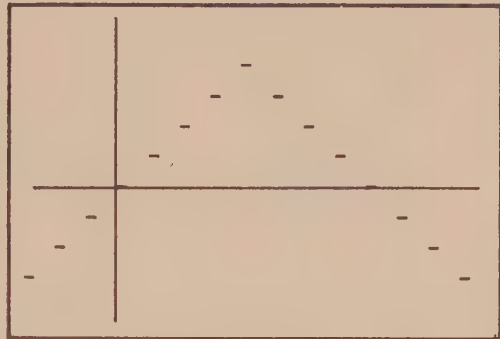

Figure 9-1 - Vertical X8
- 9.1.5. Adjust the signal's amplitude and position the vertical cursor until the signal is displayed on the screen as illustrated in Figure 9-1.